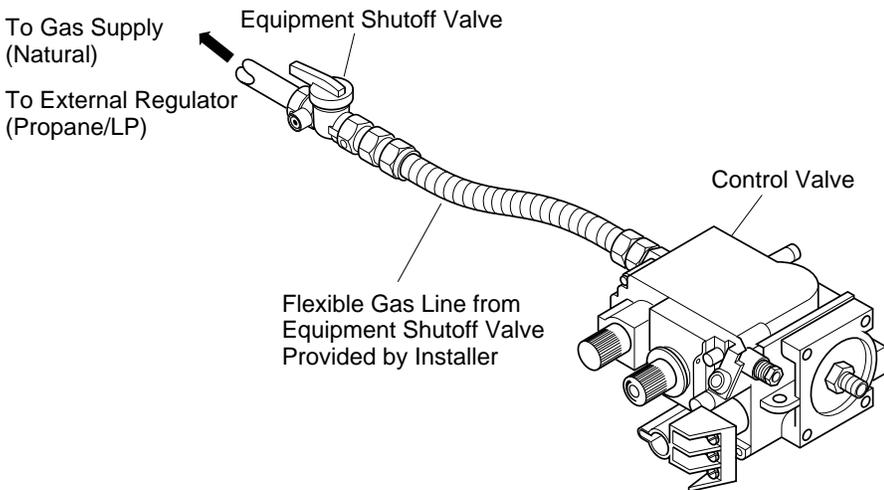

Figure 35 - Attaching Flexible Gas Line to Control Valve
We recommend that you install a sediment trap/drip leg in supply line as shown in Figure 35. Locate sediment trap/drip leg where it is within reach for cleaning. Install in piping system between fuel supply and heater. Locate sediment trap/drip leg where trapped matter is not likely to freeze. A sediment trap traps moisture and contaminants. This keeps them from going into fireplace gas controls. If sediment trap/drip leg is not installed or is installed wrong, fireplace may not run properly.
3. Attach flexible gas line from gas supply to control valve (see Figure 35).